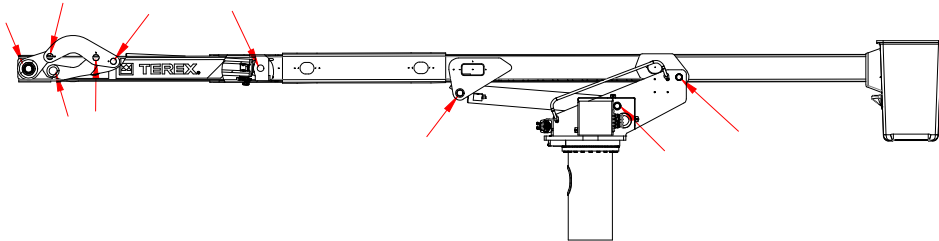

Figure 1. Areas of Machine to Inspect for Lubrication
2. Immediately inspect all pivot points for indications of lubrication, refer to Figures 1 through 3, and for any damaged components, including all pins, pin retainers, and fasteners.